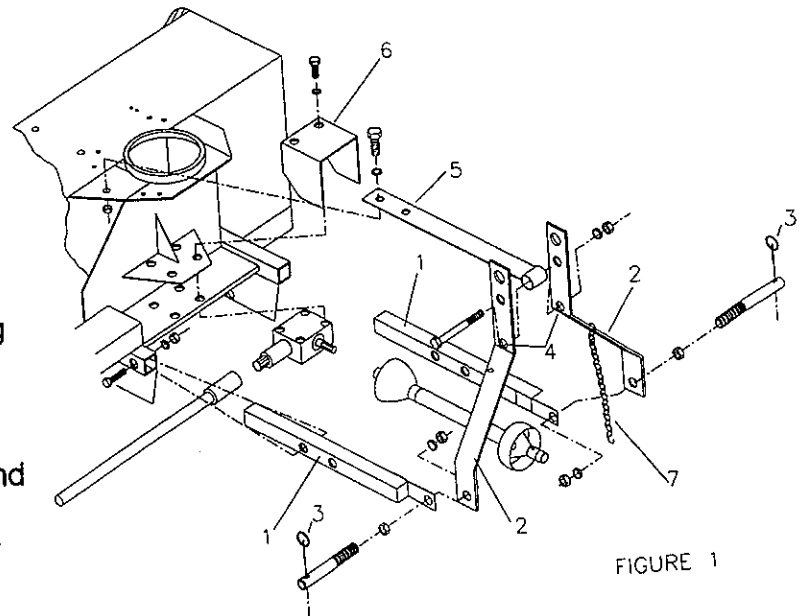

FIGURE 1
1. **GEAR BOX:** Check the oil level in the worm gear drive every month. If necessary, add AGMA 5EP, or SAE 90 gear oil. Make sure oil level is up to side plug (fig.1, item 1).
1. Install lower attaching arms(fig.1, item 1), in square tubes on blower.
3. Install 3 points hitch assembly(fig.1, item 2), inside flat plates on attaching arms and install hitch pins (fig.1, item 3) from outside in.
4. Attach top brace to 3 point hitch using lower hole(fig.1, item 4). Secure with 5/8" x 4" bolt, lockwasher and nut.
5. Align rear brace hole (fig.1, item 5) and install 5/8" x 1 1/2" bolt, lockwasher and nut. Install bolt up through blower housing with nut on top. If lower hitch tubes are assembled in extended position, brace must also be bolted in extended position.
1. Remove two 1/2" x 1" bolts from rear of gearbox and install driveline shield(fig.1, item 6) at that location. Replace and torque bolts.
2. Install " S " hooks(fig.1, item 7) on each end of 12" driveline support chain and bend hooks to prevent removal from chain.